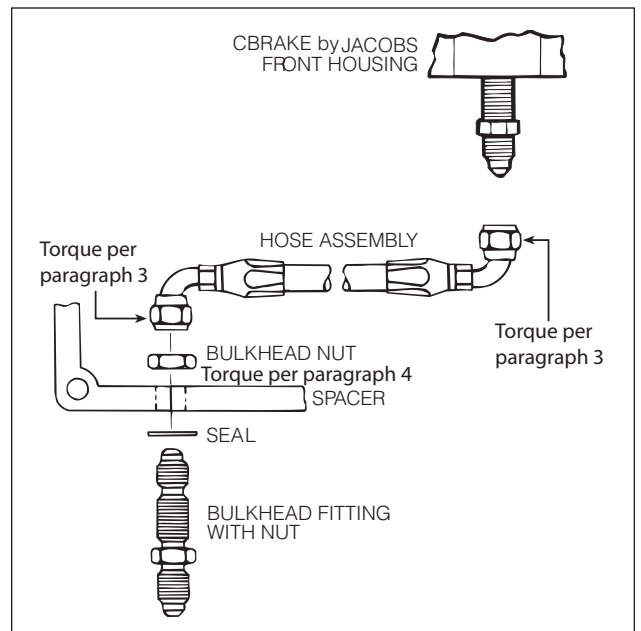

FIG. 18
4. Install short hose between housing adaptor and bulkhead fitting. Torque fitting nuts as follows: (Fig.18)